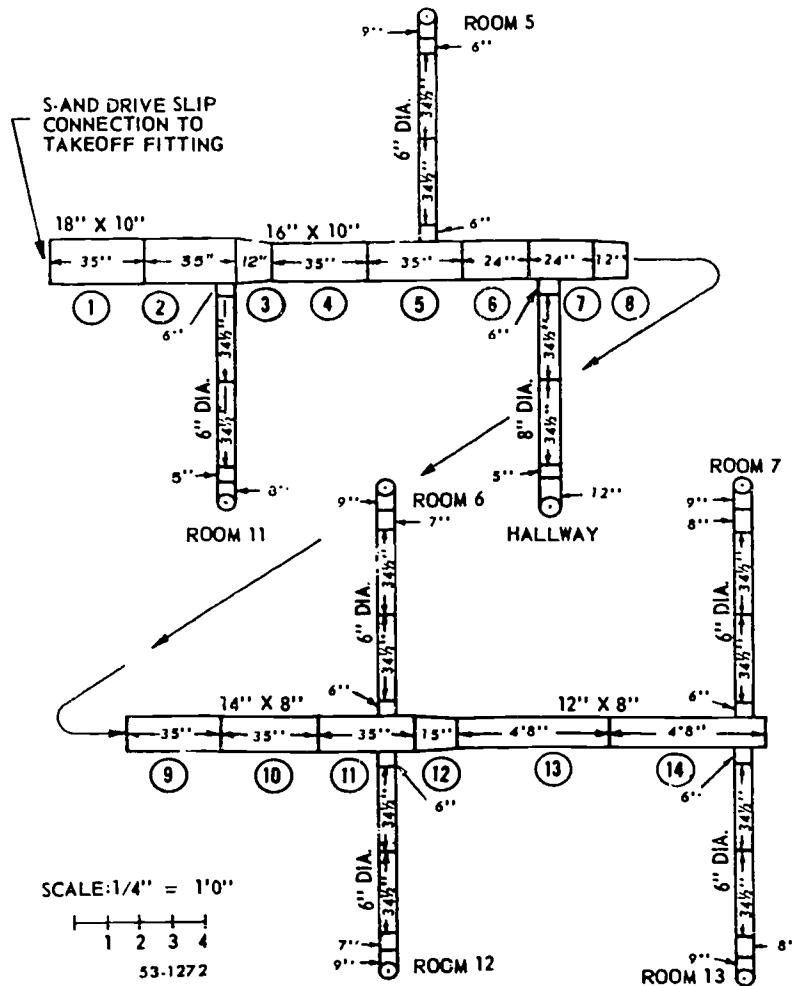

Figure 4-6. Breakdown of trunkline B and branch lines.
Now let's determine the size and quantity of sheets needed to plan and fabricate trunkline B. Our first step again is to make a scale drawing of the plan view. Figure 4-6 shows the complete breakdown of trunkline B and its branch lines (Remember to draw only the outside lines and add the joint connection lines and dimensions as you determine the length of each joint). Although we have divided the trunkline into two parts in order to fit them on one page, we recommend that you make your own drawings larger and draw the trunkline in a straight line. The four sections of trunkline B all have the same centerline.
To find the length of the joints for trunkline B, draw the joint connection lines as shown in figure 4-6,
The transitions in trunkline B are joints 3, 8, and 12, as shown in figure 4-6. Transitions 3 and 12 are made in four pieces like the takeoff fitting 7 of trunkline A because only one of the two dimensions reduces. Transition 8 is also made in four pieces but is somewhat different because both dimensions reduce. Later in this chapter when you lay out the patterns for these transitions, you will find that the true length of the sloping sides requires  $1\frac{1}{16}$ -inch additional material. Look at sheet 6 in figure 3-8, and you can see that there is sufficient leftover material on the sheet to include the extra  $1\frac{1}{16}$  inch needed for joints 3, 8, and 12.
**Branch Lines.** Earlier in this chapter, when you were breaking down the duct system, you learned that trunklines B and C had a total of twelve 6-inch and three 8-inch round duct branch lines. You also found the length of each branch line. Now you are ready to determine how much material they will require and the size and quantity of sheets needed. As with the rectangular duct, the first step is to make scale drawings of the round duct branch lines, as we have done in figure 4-6, 4-9, and 4-10.
You find the pattern dimensions for the 8-inch round duct joints in the same way. Notice in figures 4-6 and 4-9 that not all of the 8-inch diameter joints are on  $34\frac{1}{2}$ -inch centers.
As you continue determining the materials for the branch lines, you notice in figures 4-6 and 4-9 that all of the takeoff fittings are 6 inches long. These takeoffs are simply 6-inch joints of round duct fastened to the trunklines with dovetail seams. Remember from Chapter 1 how dovetail seams are made and that the seam allowance is  $1/2$  inch. Also you note in figures 4-6, 4-9, and 4-10 that the center-to-center lengths of the 6-inch elbows are 9 inches and of the 8-inch elbows are 12 inches. This leaves one short joint in each branch line to compensate for the differences in the length of the
If you are required to make elbows, you will find that, if the patterns for the 5 gores of each elbow are laid out side by side, the 6-inch elbow requires a  $12\frac{1}{4}'' \times 19\frac{1}{8}''$  piece of material and the 8-inch elbow requires a  $15\frac{1}{2}'' \times 26\frac{1}{8}''$  piece of material. The branch lines shown in figures 4-6, 4-9, and 4-10 include twelve 6-inch elbows and three 8-inch elbows. With this information, you can easily determine how many sheets of metal you need to make the 15 elbows.